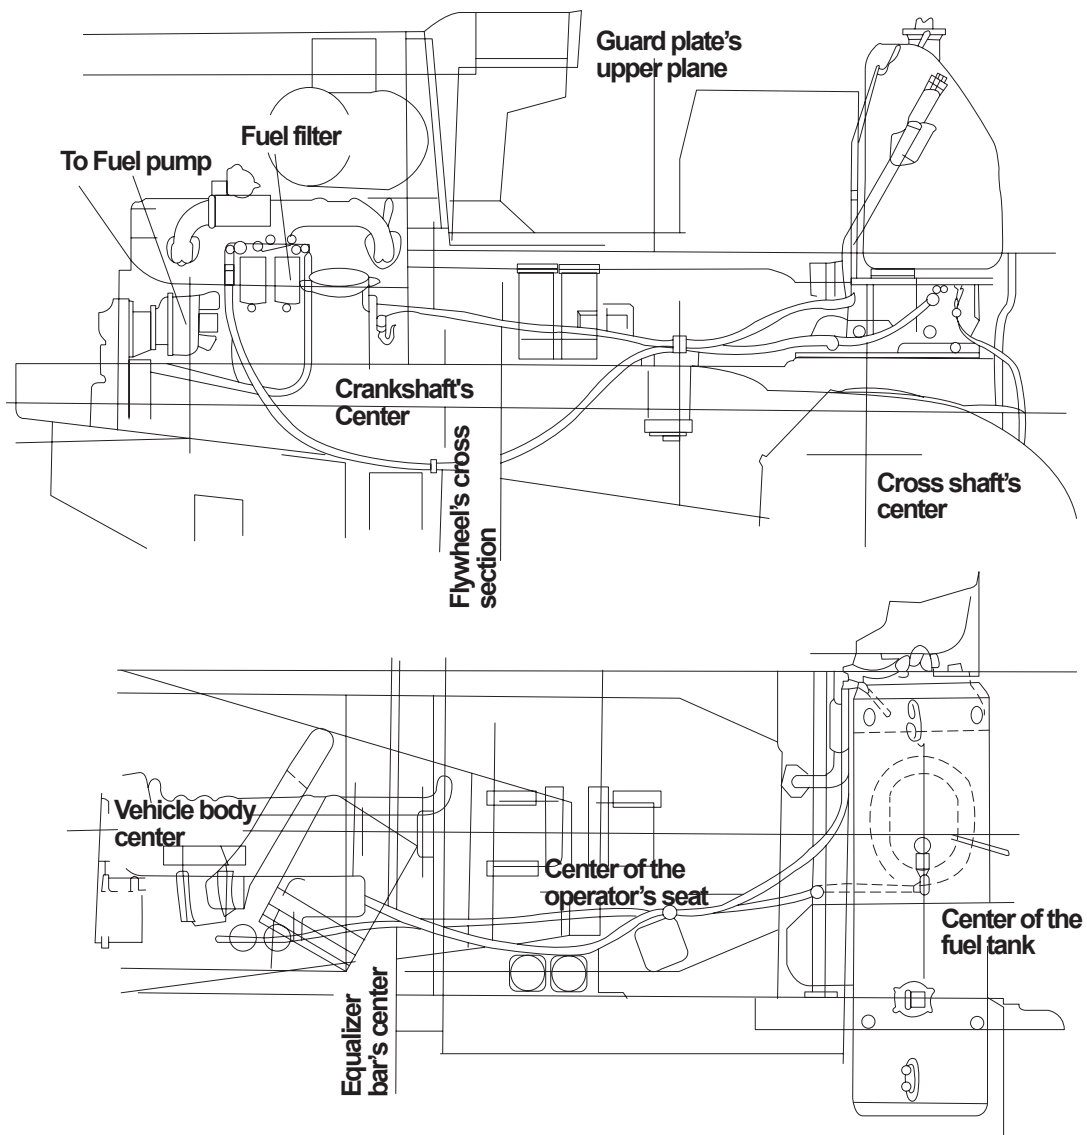

Figure 3-10
3.2.5 FUEL TANK AND PIPING (SEE FIGURE 3-10)